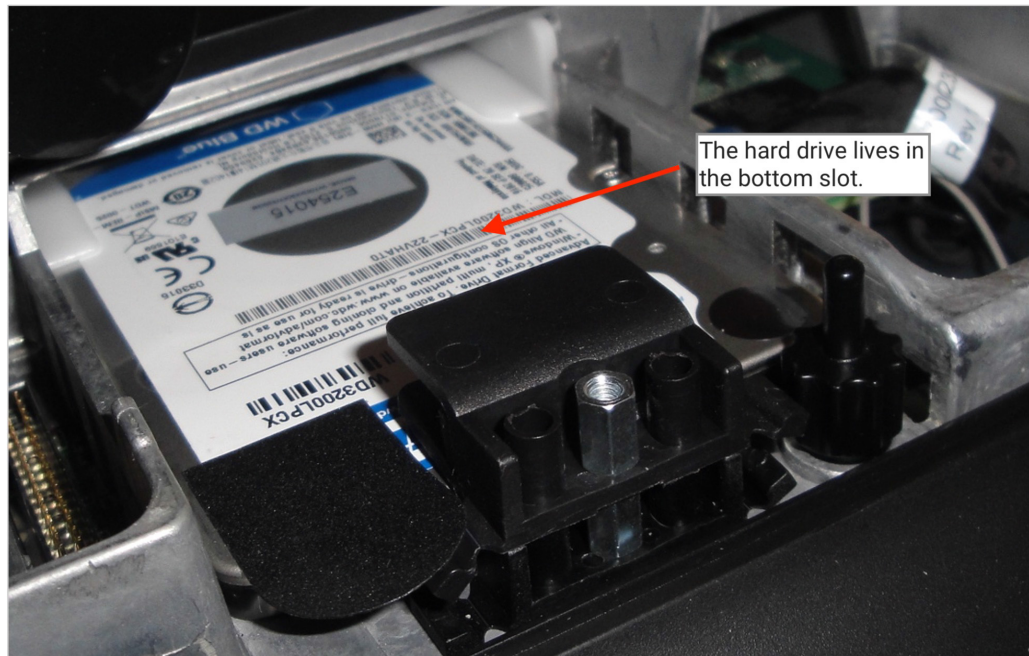

Figure 11. The hard drive in the bottom slot position.
- 7 With the rear cover removed, the hard drive can be found in the bottom slot position (**Figure 11**).
- 15 Replace the rear cover, securing it with the two tabs seen in **Figure 11**. Leave the cable cover off.